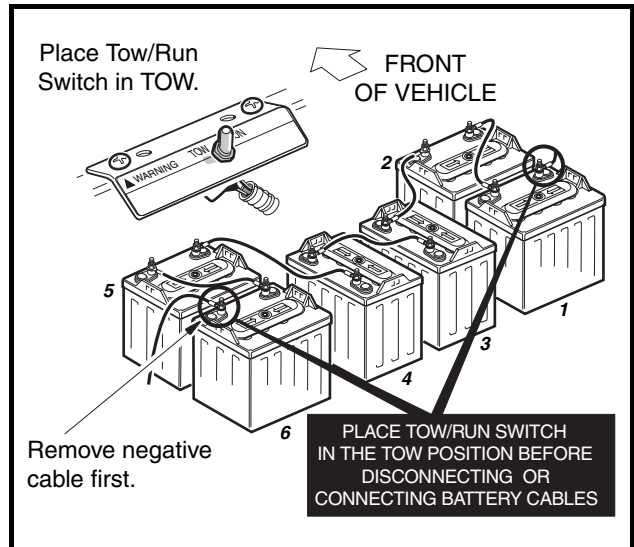
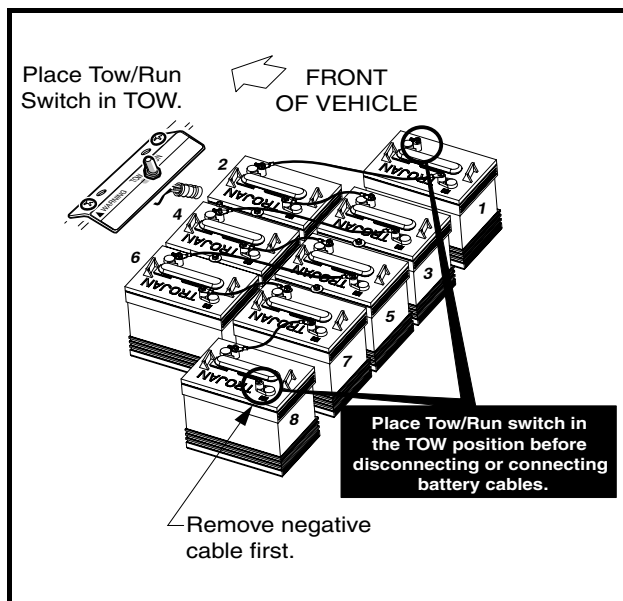
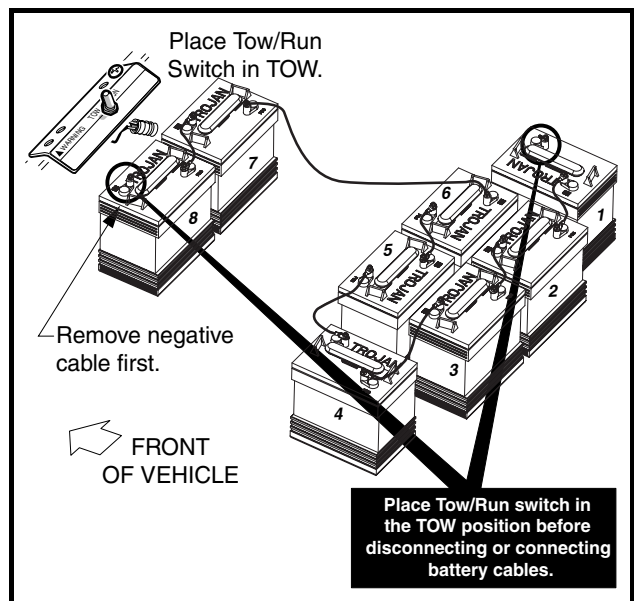

Figure 1-2 IQ System Vehicle
Figure 1-3 Turf/Carryall 2 IQ Plus Electric Vehicle
Figure 1-4 Carryall 6 IQ Plus System Vehicle
- To avoid unintentionally starting the vehicle, disconnect the batteries as shown (Figure 1-2, Page 1-3 or Figure 1-3, Page 1-3 or Figure 1-4, Page 1-3).